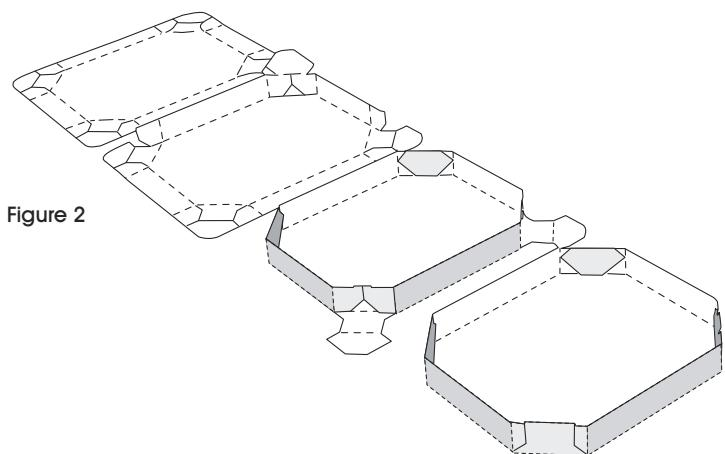

Figure 2
2. Fold up all four sides, folding ends in to form the angled corners. (See Figure 2)